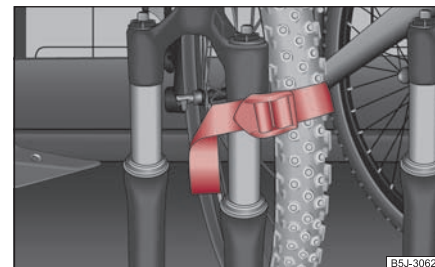

Fig. 95 Fastening the front wheel
- It is best to push the removed front wheel between the crank of the left pedal and the bicycle frame, attach it with a strap to the front fork ⇒ page 77, fig. 95, and/or to a fixing point.